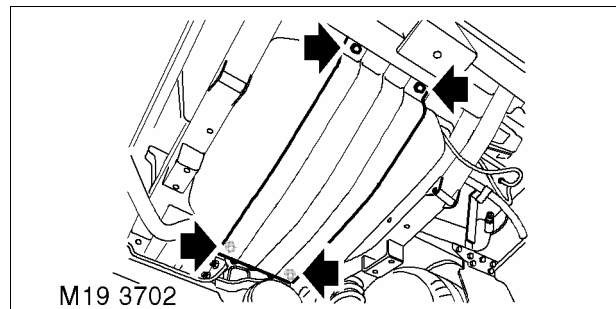

Fig. 7
- 11 Remove back two bolts and nut plates securing fuel tank cradle. See Fig. 7.